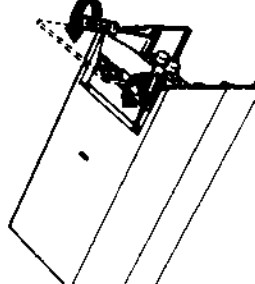

Fig. 10
- 5.3.1 Remove 4 screws securing the lower part of the casing to the case frame. (Fig 10)